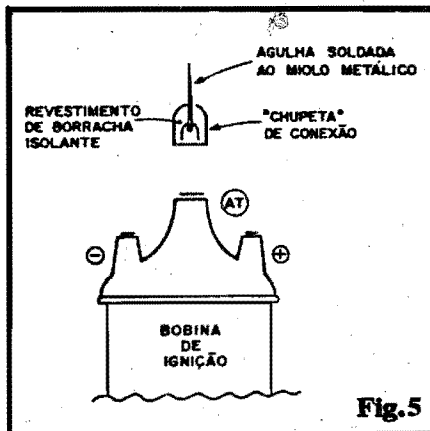

Fig. 5
- FIG. 5 - DETALHE DA "AGULHA" DO CENTELHADOR (TERMINAL DE ALTA-